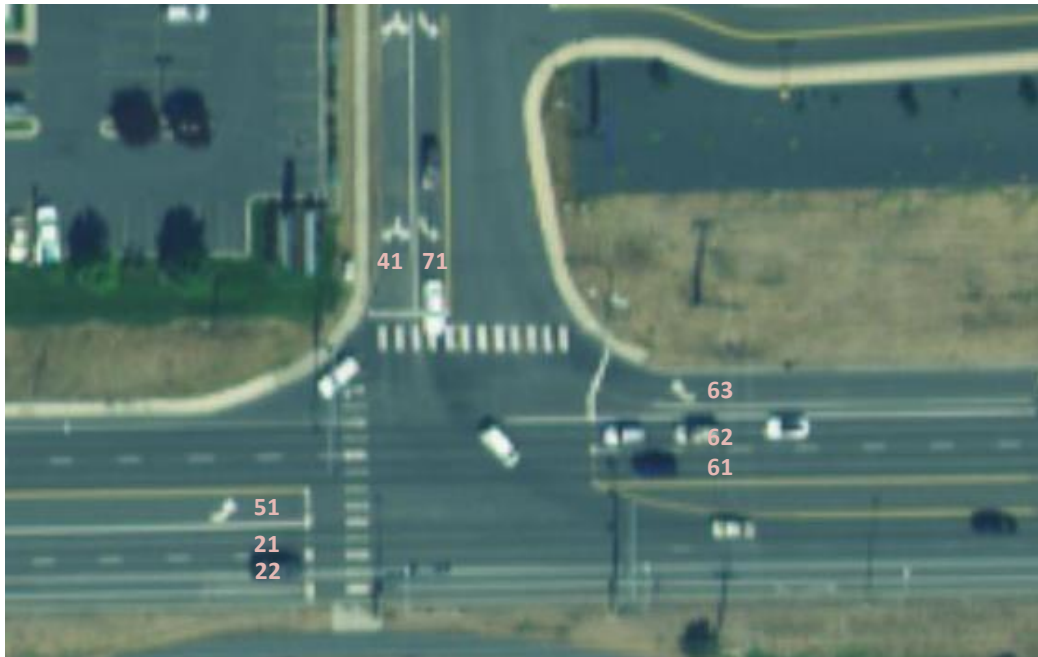

Figure 1. Defining movement numbers
Your first step is to define the movement numbers for your intersection using a two digit format. The first digit of the designation should correspond to the standard NEMA numbering for that movement. The second digit starts at one for the inner most lane for a given movement and increments by one for each additional lane serving a movement. For example, for the WB approach in Figure 1, the lanes are numbered 61, 62, and 63. These numbers will be used for the signal head numbers and detector numbers discussed on the following pages.
- Enter a Signal Group (SG) (Phase) number for each phase that will be provided for your intersection. The SG (Phase) number corresponds to the first digit of the numbering scheme that you developed in Task 1 (Figure 1).